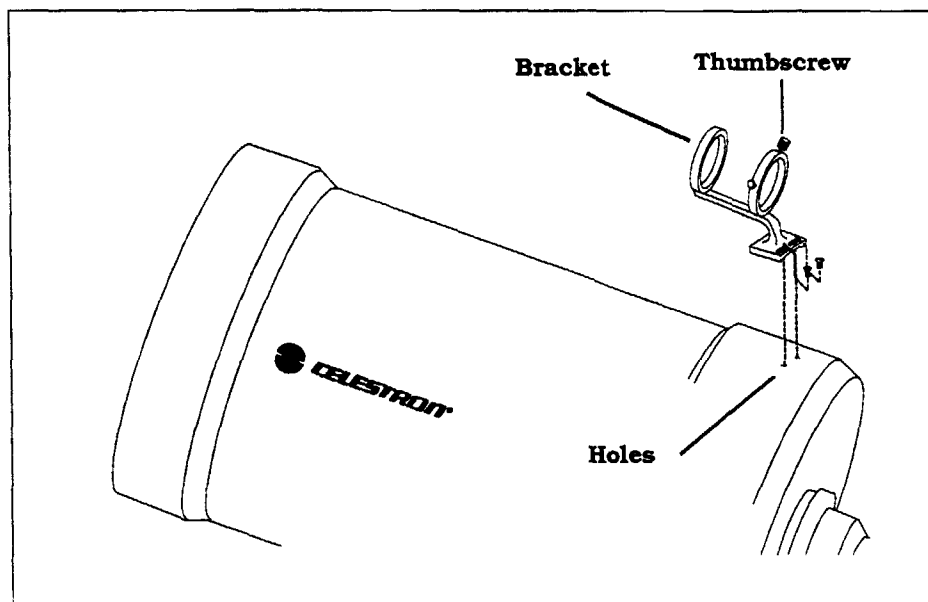

Figure 2-10
3. Place the finder bracket over the holes. The bracket should be oriented so that the ring with the holes for the adjustment screws is closer to the rear cell of the telescope (see figure 2-10).